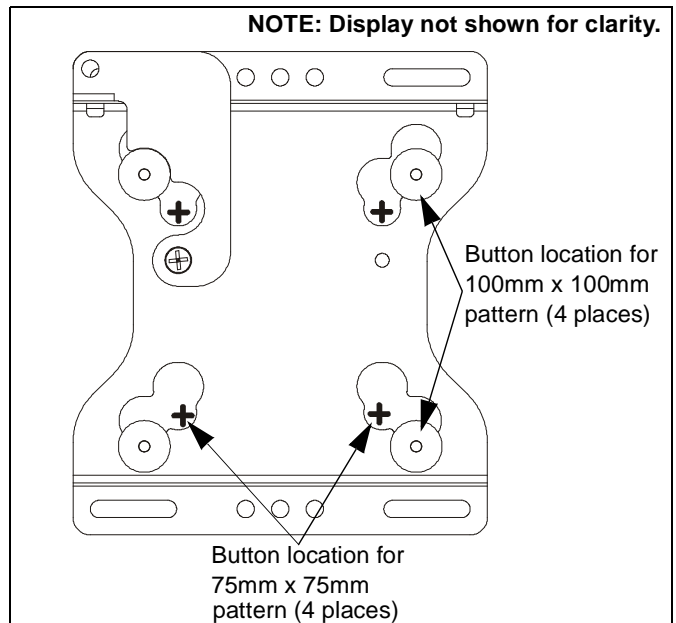

Figure 7
NOTE: Mounting buttons are shown in the 100mm x 100mm pattern. FSR (A) will also accommodate a 75mm x 75mm pattern. (See Figure 7)